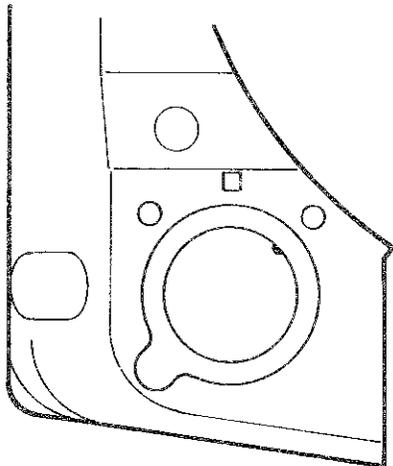

Fig. 30
2. When removing the left side board, set the shutter release selector lever to "LOCK" position (Red index). (Fig. 30)